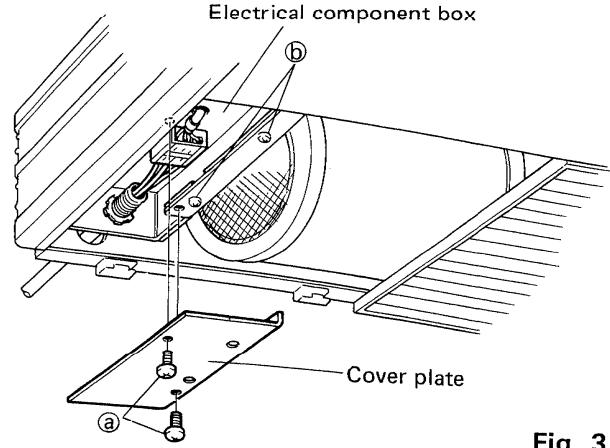

Fig. 3
- 1) Remove the two screws (a) of the electrical component box, and remove the cover plate. Fig. 3
- 3) When the three screws (b) are removed, the electrical component box can be pulled out to the lower side of the unit. (The one other screw (b) is at the rear between box and casing.) Fig. 3